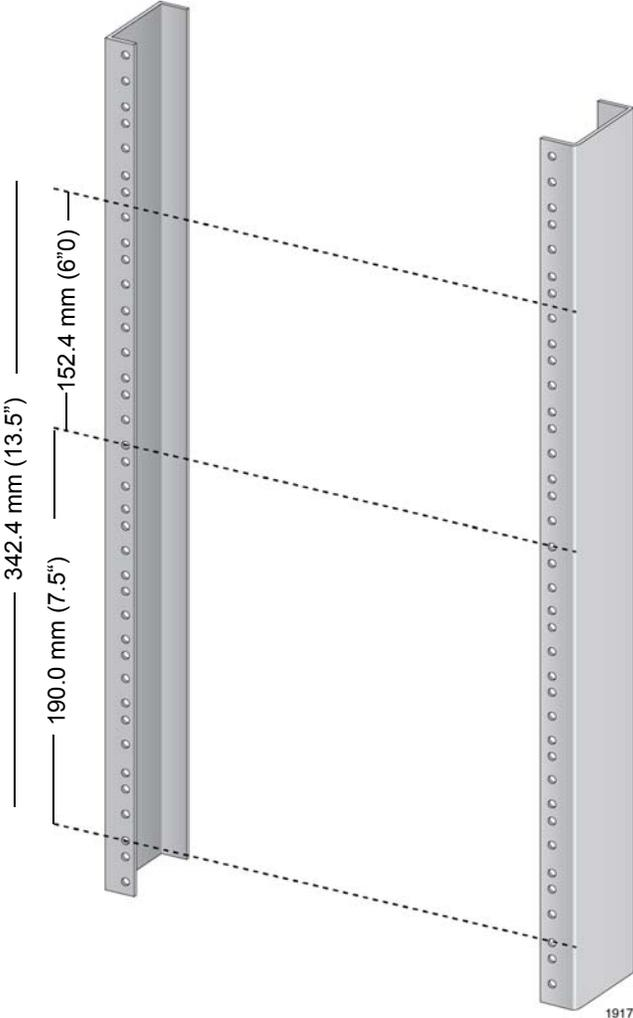

Figure 29. Reserving Vertical Rack Space
1. Reserve 190.0 mm (7.5") of vertical rack space for the installation of the AT-SBx8106 Chassis, as shown in Figure 29 on page 74.